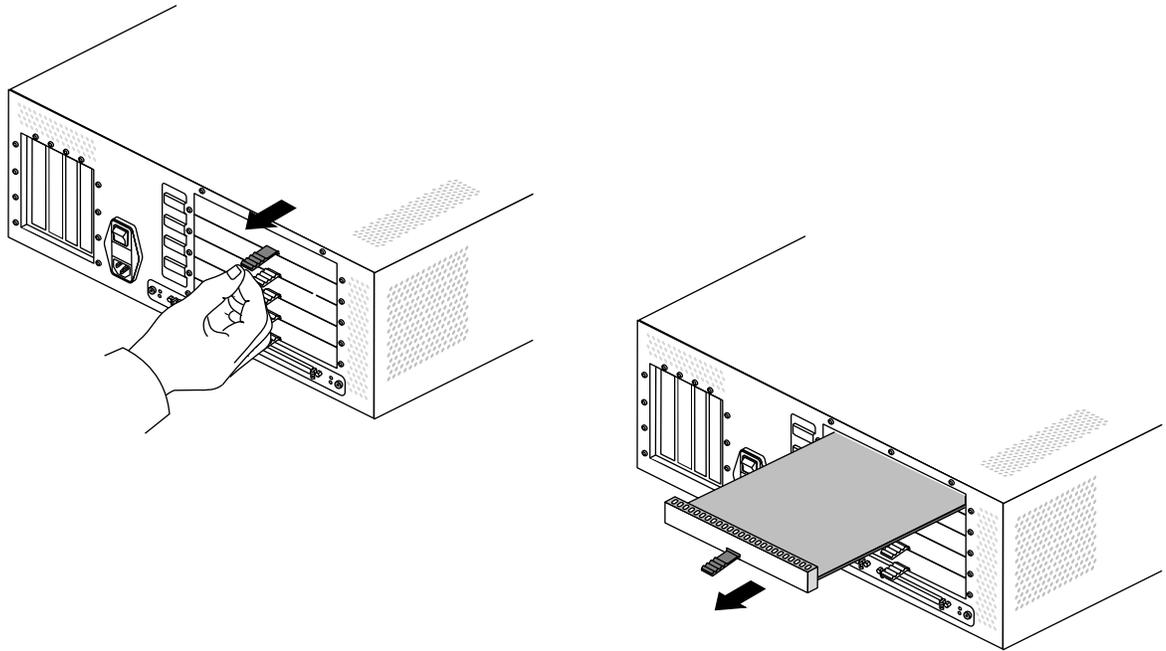

Figure 2-16 Removing an XIO Slot Blanking Card
- Pull the tab on the blanking card and slide the card out of the XIO slot, as shown in Figure 2-16.